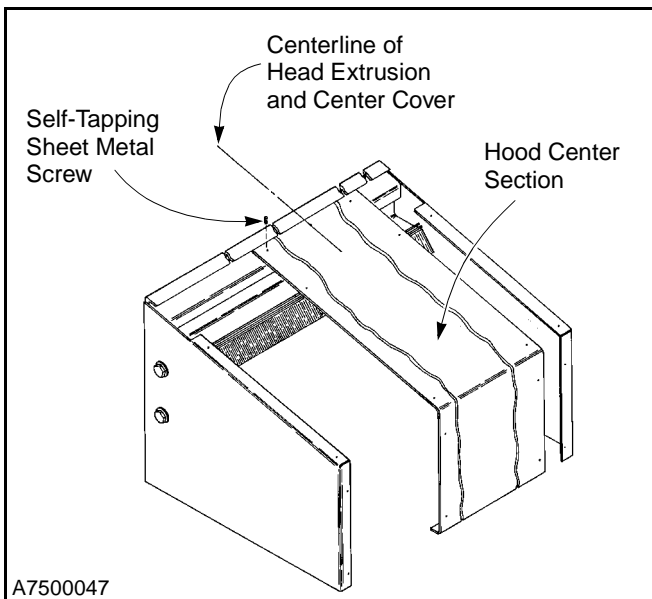

Figure 48
4. Three-Piece Hood Only: Center the hood center section across the inside ends of both hood covers. Then attach the center section using #12 x 3/4-in. self-tapping sheet metal screws. (See Figure 48.)